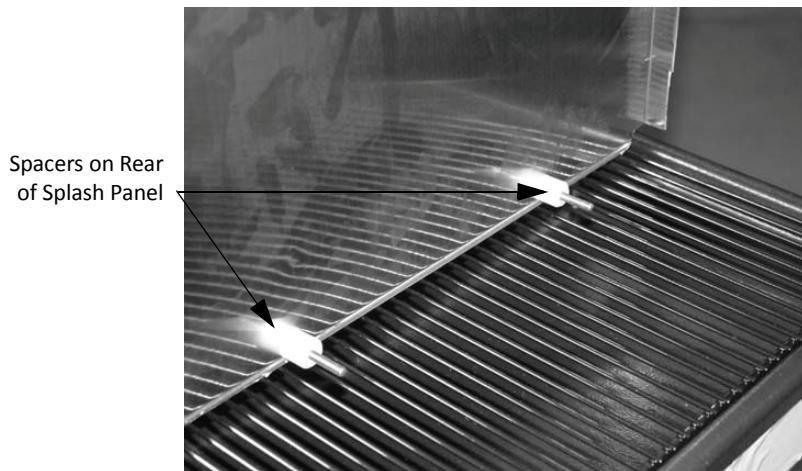

Figure 14.
4. Add the 2 Spacers to the rear side of the Splash Panel before attaching it to the frame (Figure 14.)
5. Secure the Splash Panel to the Frame using four (4) 1-1/4" 8-32 screws.